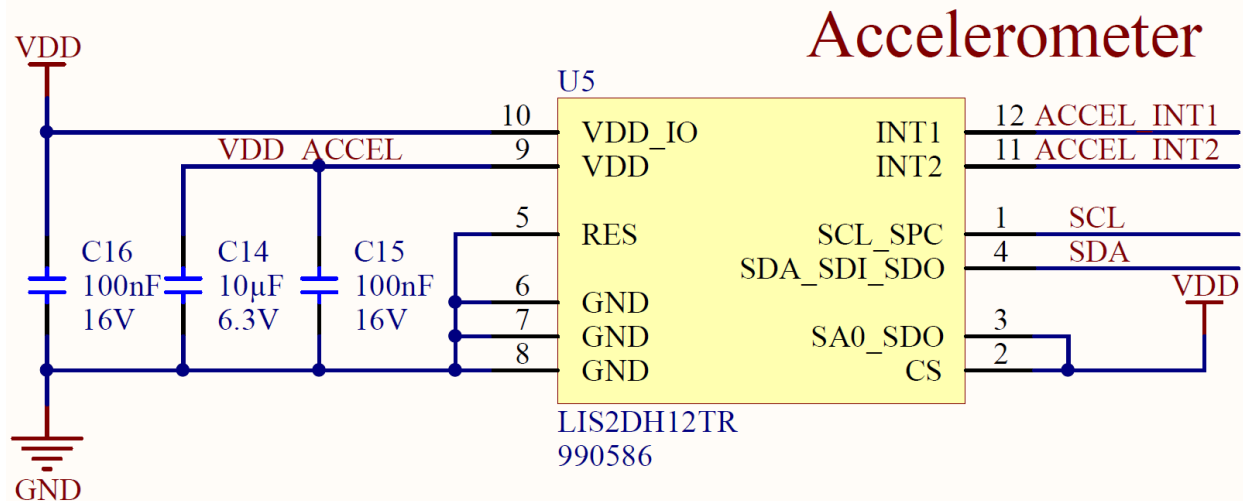

Figure 3-1: Accelerometer Schematic
The accelerometer communicates via I2C (address 0x19) and also routes two (2) separate interrupt pins which allow the accelerometer to wake on predefined acceleration events. It is setup as shown in Figure 3-1.